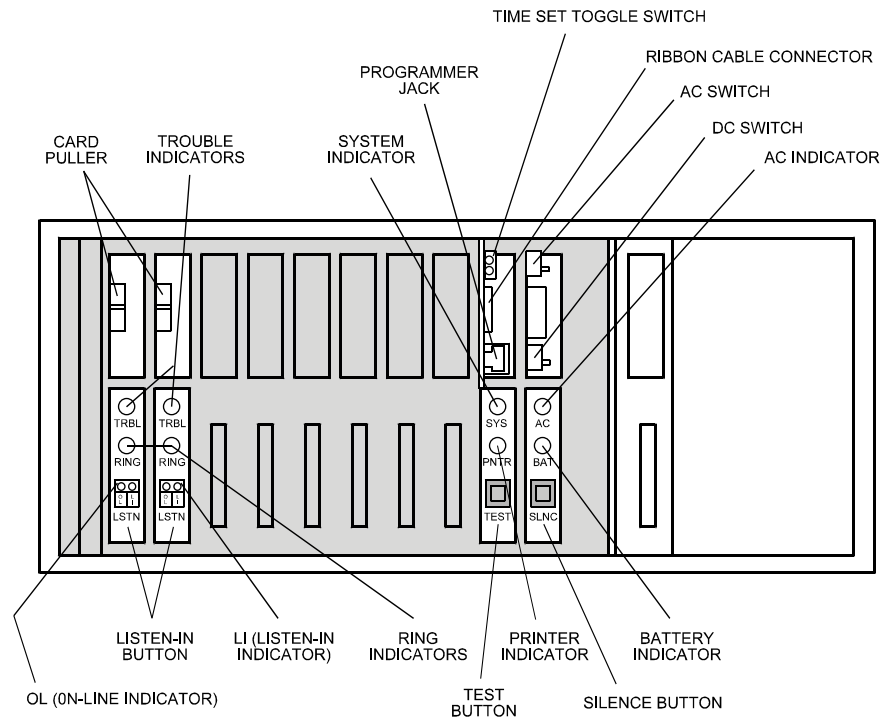

Figure 9-1: D6500 receiver front section controls and indicators (display door open)
- [] 2. Open the door of the display panel and locate the Power Supply Card. Make sure that the **AC** and the **BAT** power switches on the right side of the Power Supply Card are **OFF** (both switches in the down position, see Figure 9-1).